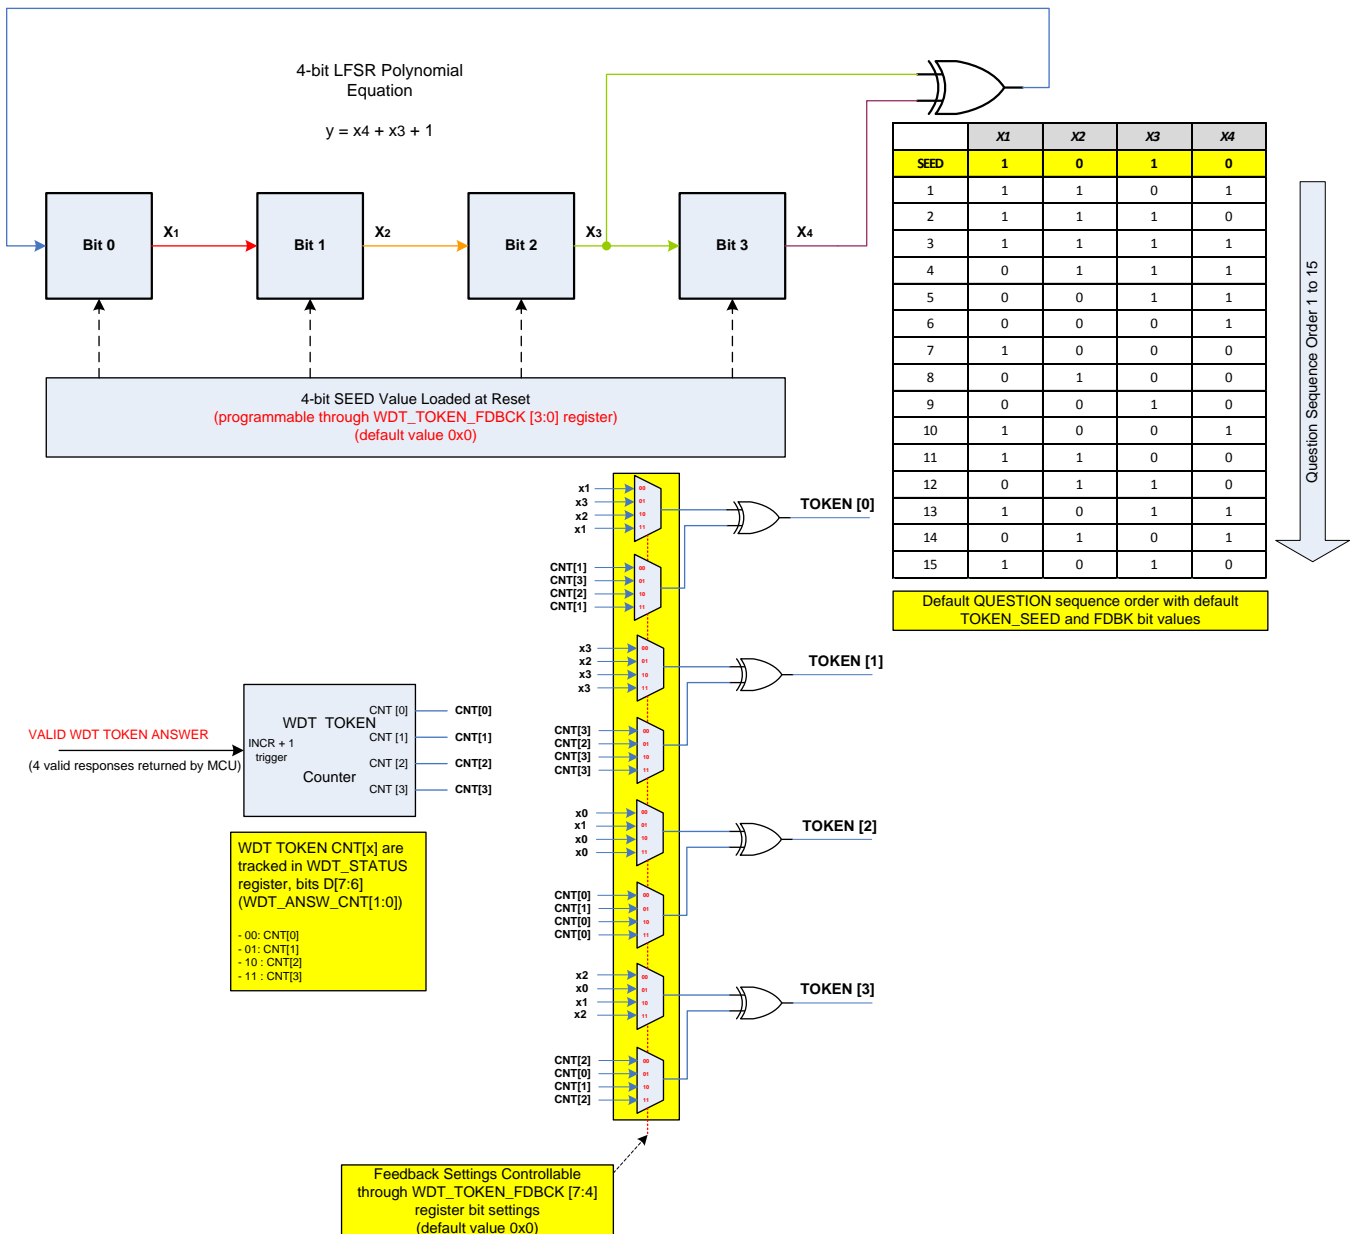

Figure 5-9. Watchdog TOKEN Generation
- The MCU can request each new generated token at the start of the OPEN window, but this is not a required condition for a *good event*. The MCU can also generate the TOKEN by mimicking the TOKEN generation circuit as shown in Figure 5-9. Nevertheless, the valid responses (*answers*) are always based on the TOKEN generated inside the TPS65381-Q1 device. So if the MCU generates a wrong TOKEN and gives responses (*answers*) based on the MCU (wrong) TOKEN, a *bad event* is detected in the TPS65381-Q1 device.
A Watchdog Token-Response Sequence Run starts by writing the WDT_WIN1_CFG register or the WDT_WIN2_CFG registers, or the end of time window is not allowed to clock either the 4-bit counter or the Markov chain, therefore no new TOKEN is generated in any of these events. The 4-bit counter and the Markov chain are set to the singular point b0000 at reset. To leave the singular point the feedback logic combination is implemented. The logic combination of the 4-bit counter with the Markov chain generates the 4-bit questions is shown in Figure 5-9.